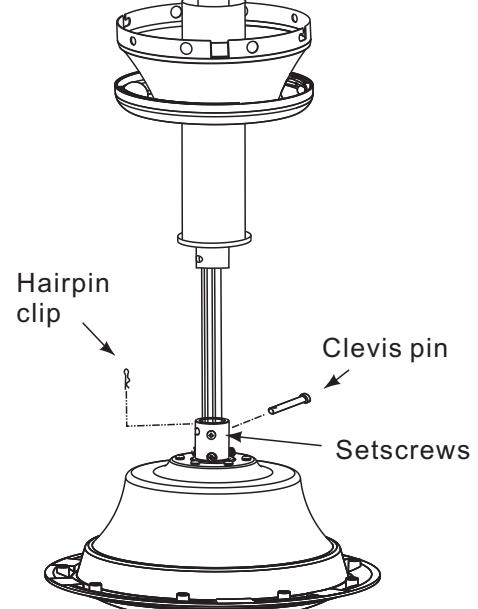

Figure 4
4. The buttons on the remote control transmitter control the fan speed and light as follows. (Fig. 4)